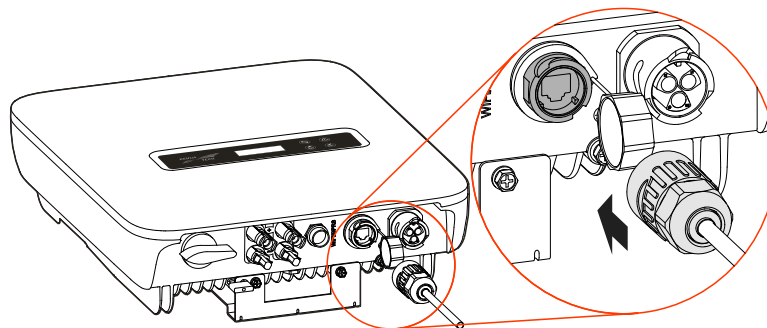

Figure3-31 Insert the communication port
- Step 3 Screw the waterproof cover on the COM. port, insert the RJ45 port to the COM. Port (as shown in Figure3-31) and screw it.